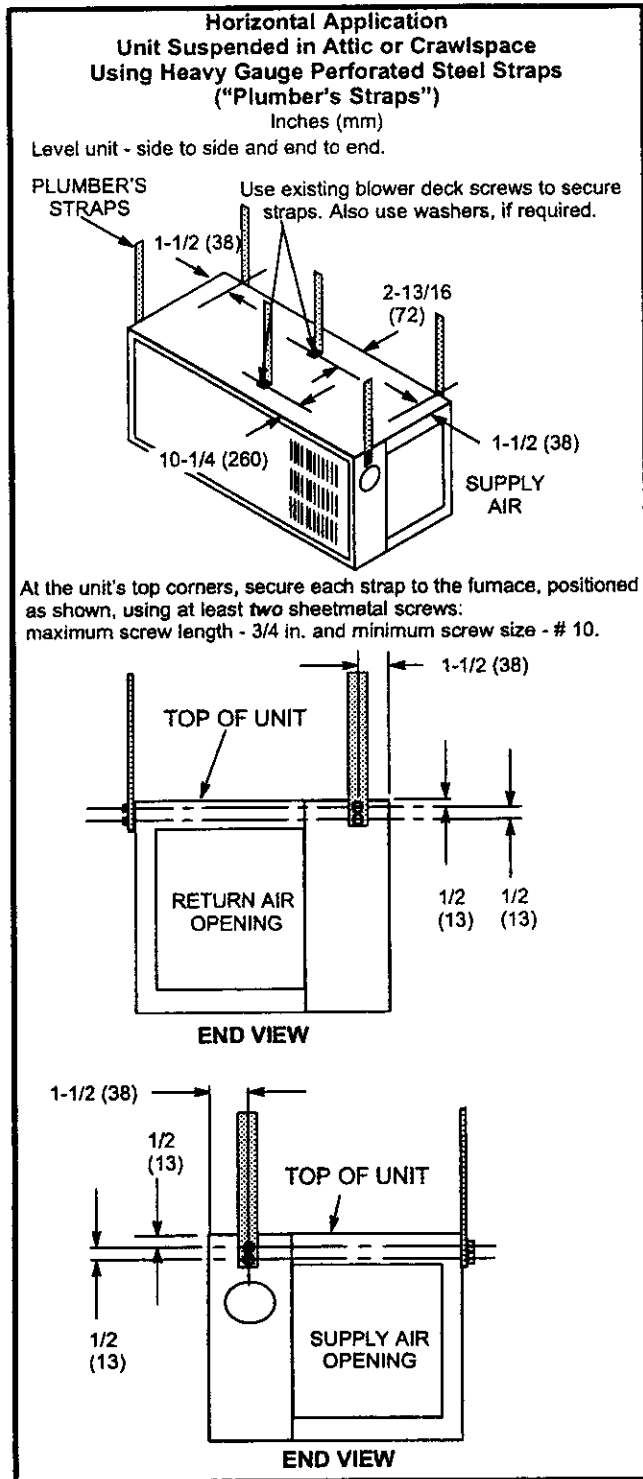

FIGURE 12
- 3- Using heavy gauge perforated steel straps ("plumber's straps") - Install as shown in figure 12.